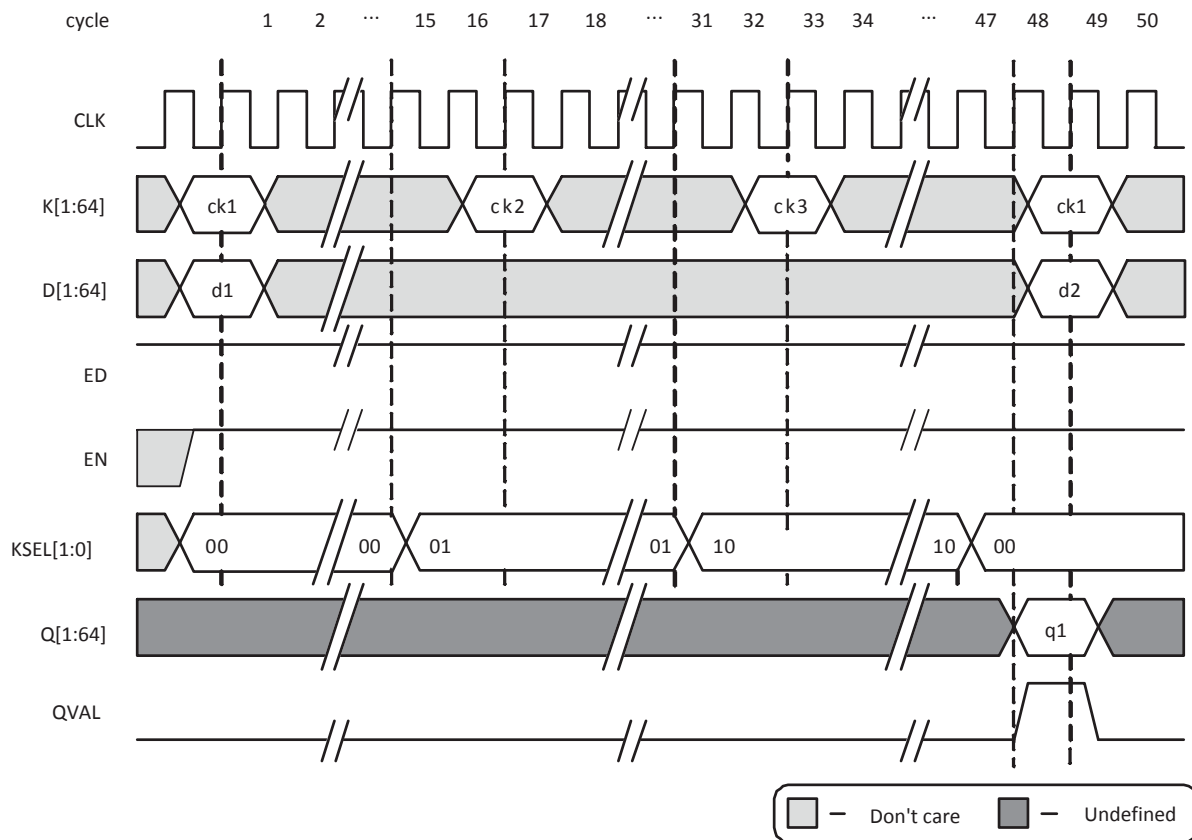

Figure 8 Example Encryption Sequence
- K[1:64] is set to the first of three cipher sub-keys (ck1 in Figure 8) to encrypt the data.
- D[1:64] is set to the plaintext data (d1 in Figure 8) to be encrypted.
After 15 clock cycles of the EN input being held continuously at a logic '1' value, the KSEL[1:0] outputs change from '00' to '01', indicating that the second of three cipher sub-keys (ck2 in Figure 8) need to be presented on the K[1:64] inputs, which must be done by the rising clock edge of the start of clock cycle 17 (one complete clock cycle of slack is built into the Core3DES circuitry). After 31 clock cycles of the EN input being held at a logic '1', the KSEL[1:0] outputs changes from '01' to '10', indicating that the third of three cipher sub-keys (ck3 in Figure 8) need to be presented on the K[1:64] inputs, which must be done by the rising clock edge of the start of clock cycle 33.
After 48 clock cycles of the EN input being held continuously at a logic '1' value, the QVAL signal transitions from logic '0' to logic '1' and remains valid for one clock cycle, indicating that valid ciphertext (encrypted) data (q1 in Figure 8) is available on the Q[1:64] outputs.
As shown in Figure 8, continuous encryption is possible. For example, the second 64-bit plaintext data word (d2 in Figure 8) can be immediately encrypted by presenting d2 on the D[1:64] inputs by the rising clock edge of clock cycle 49 and by presenting the cipher sub-keys ck1, ck2, and ck3 in the sequence described earlier in this section.